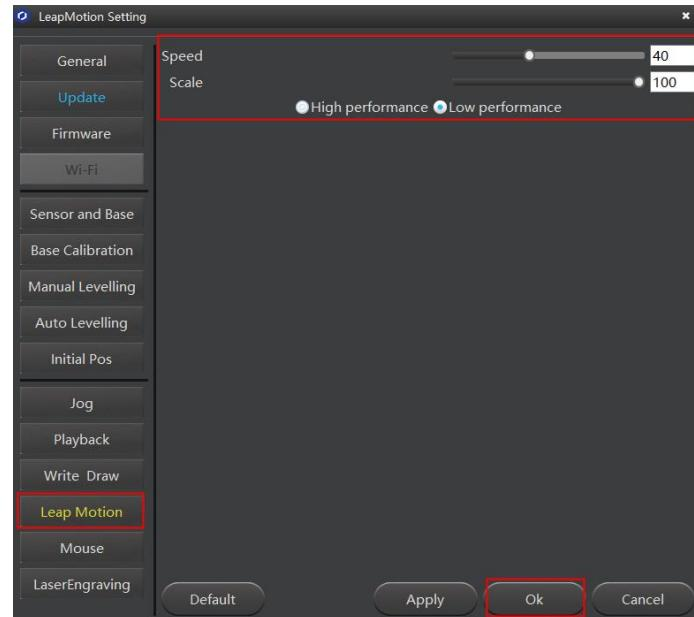

Figure 5.111 Set the parameters of the Leap Motion function
**Step 4** Click **Leap Motion**, as shown in Figure 5.111. Set the parameters, as shown in Table 5.12, and click **OK**.